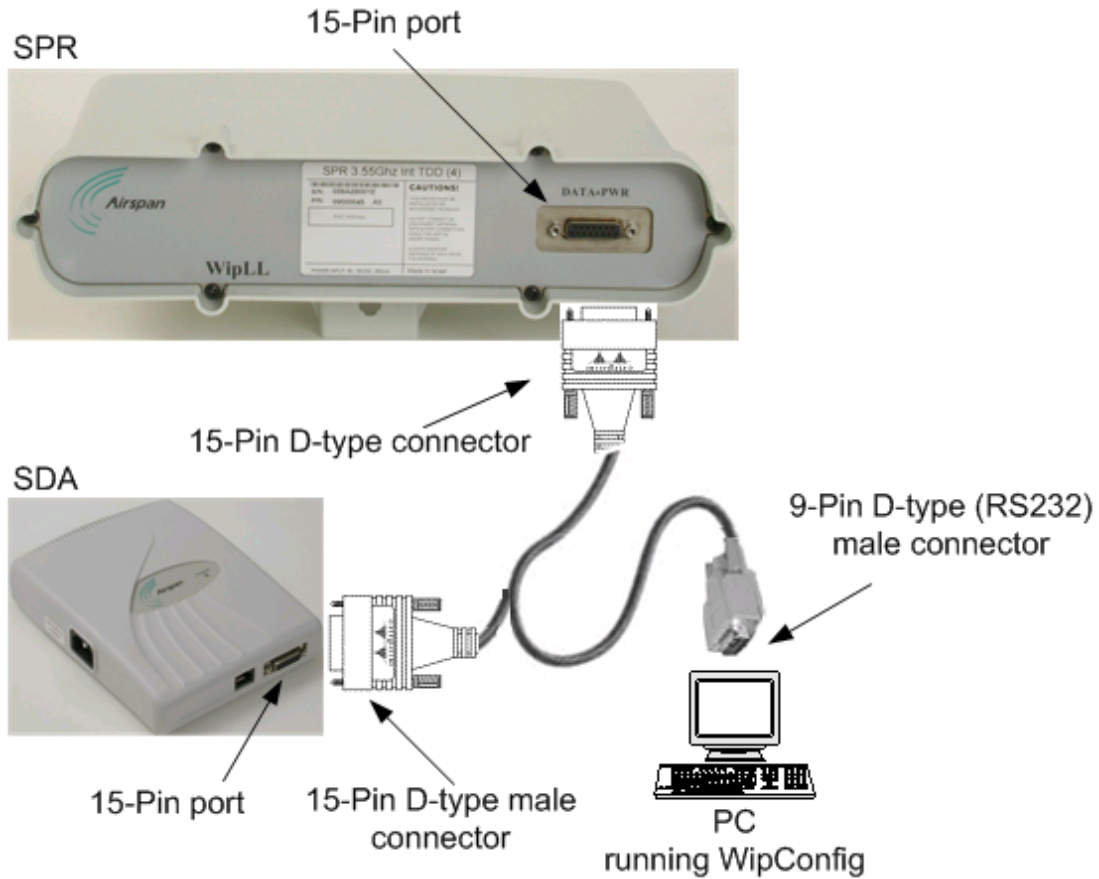

Figure 8-18: SPR cable connections for serial configuration
1. Connect the **15-pin D-type male** connector (P1), at the one end of the Y-cable, to the SPR, as displayed in Figure 8-18.
2. Connect the **15-pin D-type male** connector (J1), at the other end of the Y-cable, to the SDA, as displayed in Figure 8-18.
3. Connect the **9-pin D-type** (RS232) connector (J2), at the other end of the Y-cable, to the PC, as displayed in Figure 8-18.